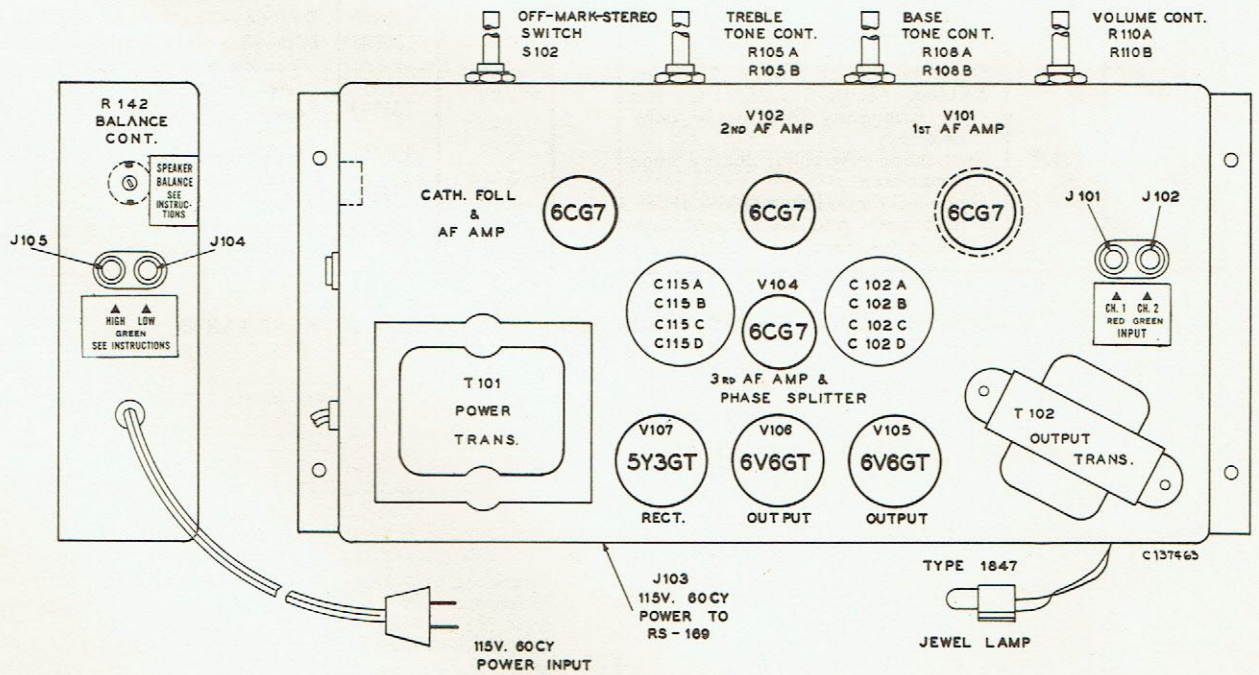

Figure 4—Power Amplifier Assembly, Chassis No. RS-169
4. With radio or record reproduction at desired volume level from the source instrument, adjust the "SPEAKER BALANCE" control (R142) to obtain the desired volume level from Model STR-2. Refer to figure 4 for location of the balance control.